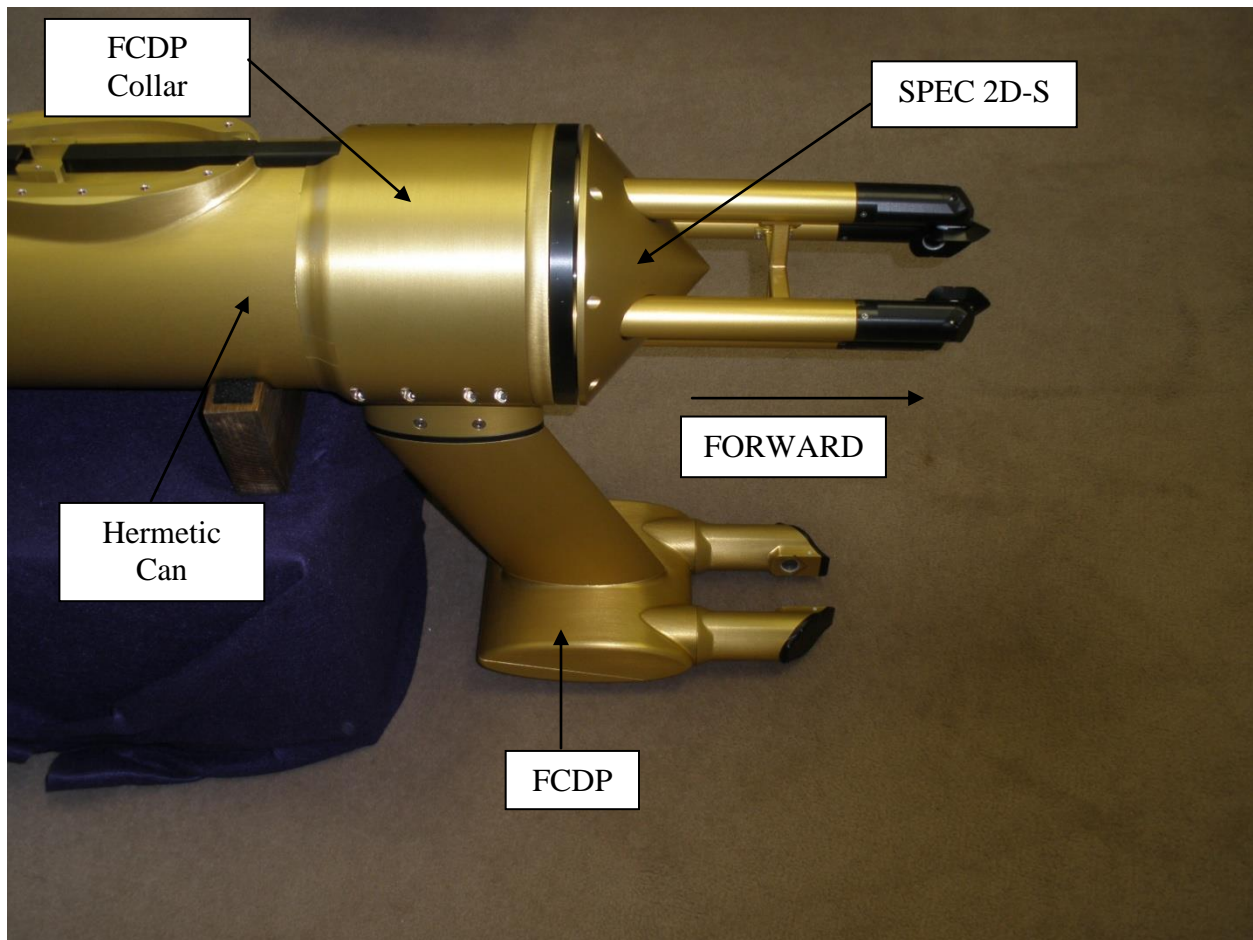

Figure 5.1: FCDP/Collar/2-DS
The FCDP is designed to hang vertically from its mounting point. The collar is designed so that the canister can be mounted in 3 different rotational patterns and allow for the FCDP to remain in its proper orientation. **Figure 5.1** shows the final FCDP orientation on the collar with a 2D-S installed in the hermetic can.
- 2.) Align the holes of the FCDP so it appears as pictured in **Figure 5.1**.